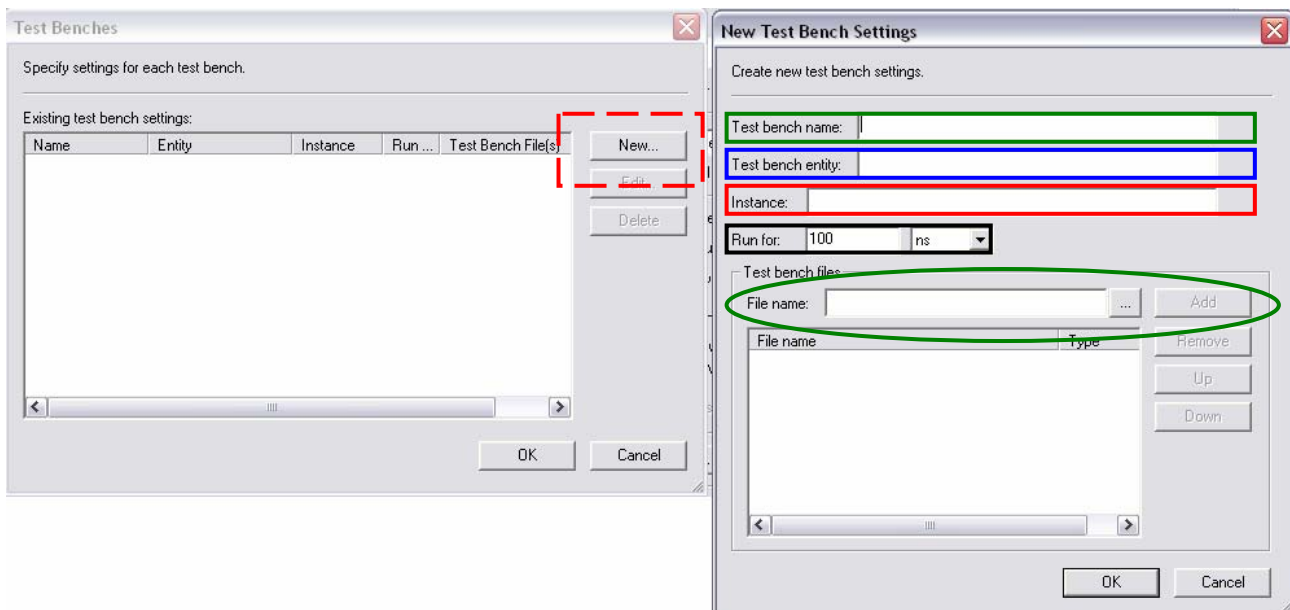

Figure 6: Settings dialog box for timing simulation
- Using this dialog box create a **New** test bench (highlighted in red dashed line in figure 6);
- In the **Test bench name** field write the test bench setup name that identifies the different testbench setups using this format `<Test_Bench_Name.vht>` (highlighted in green in figure 6);
- In the **Test bench entity** box, type in the top-level testbench entity name in the following form: `<Vector_Waveform_File_name_vhd_vec_tst>` (highlighted in blue in figure 6);
- In the **Instance** box type “*i1*” (highlighted in red in figure 6);
- Write the simulation time in the **Run** box (highlighted in black in figure 6);
- Add the previously exported VHDL testbench file (.vht) to the testbench files section using the **Browse** button (encircled in green in figure 6).
Now the test bench files are set and ready to use for functional and timing simulation. In figure 6 the Test Benches and the New Test Bench Settings dialog boxes are reported: